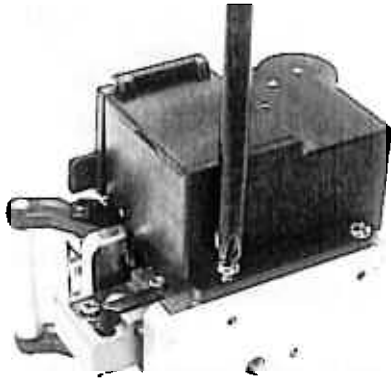

Fig.20
- (i) Remove the fixing screws (refer to Fig. 20).